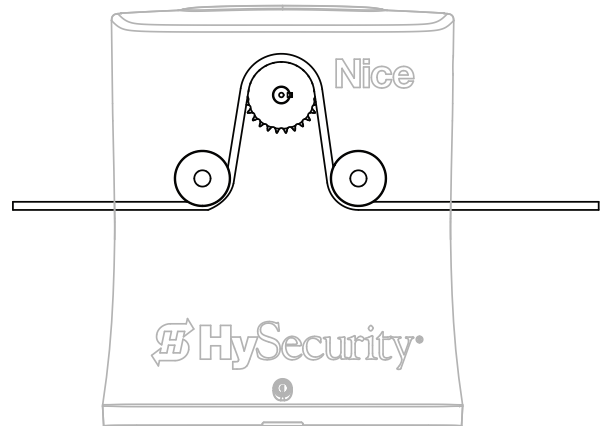

Figure 11. Front Installation Chain Route
8. Route the chain through the idlers and sprocket (Figure 11).